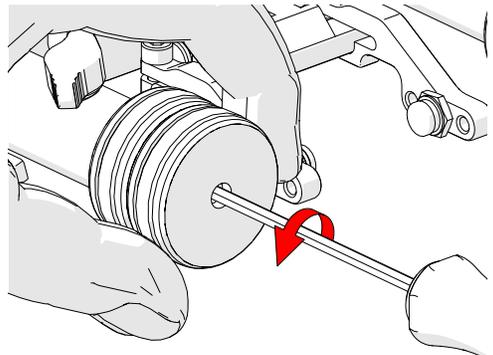

Fig. 31 - Wheel removal
1. Tightly grip the magnetic wheel to be removed. Using the 3 mm hex driver, loosen the magnetic wheel from the axle (Fig. 31).